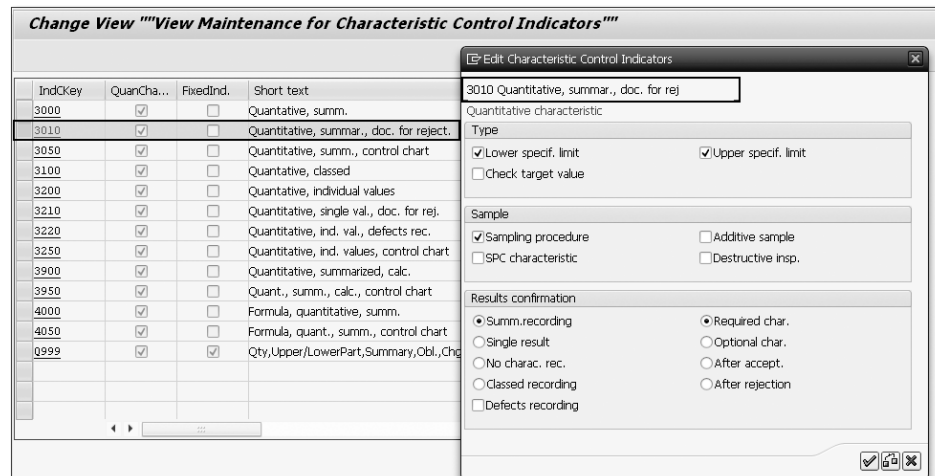

Figure 3.60 Control Indicators
To define default values for control indicators, follow the menu path SPRO • SAP REFERENCE IMG • QUALITY MANAGEMENT • QUALITY PLANNING • BASIC DATA • INSPECTION CHARACTERISTIC, INSPECTION METHOD • DEFINE DEFAULT VALUES FOR CONTROL INDICATORS. Figure 3.60 shows the default values indicator control key (INDCKEY) 3010, where the right-hand side shows the characteristic control indicators. After you've made necessary settings here, another pop-up appears that allows you to incorporate more default values for the characteristic. You assign this indicator control key 3010 while creating a characteristic.